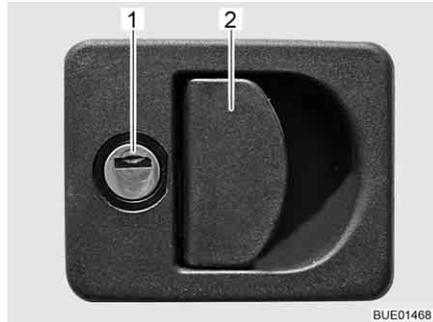

Fig. 34 Flap lock with recessed handle
- Insert key into locking cylinder (Fig. 34,1) and turn a quarter turn. The flap lock is unlatched.
- Pull on the lock handle (Fig. 34,2). The external flap is open.